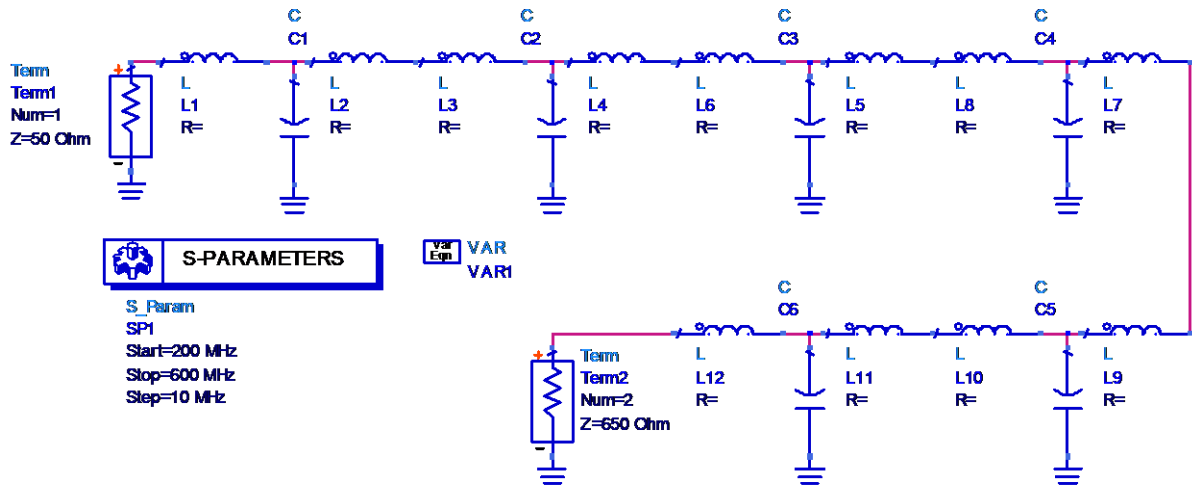

Figure 2: 6 T-section artificial line representing a quarter-wave transformer at 400MHz
- Then you should have 2 unknowns and 2 equations → solve for L_s and C_s . Now build this up in ADS using the S-parameter simulator, something like that shown below in Figure 2. Remember